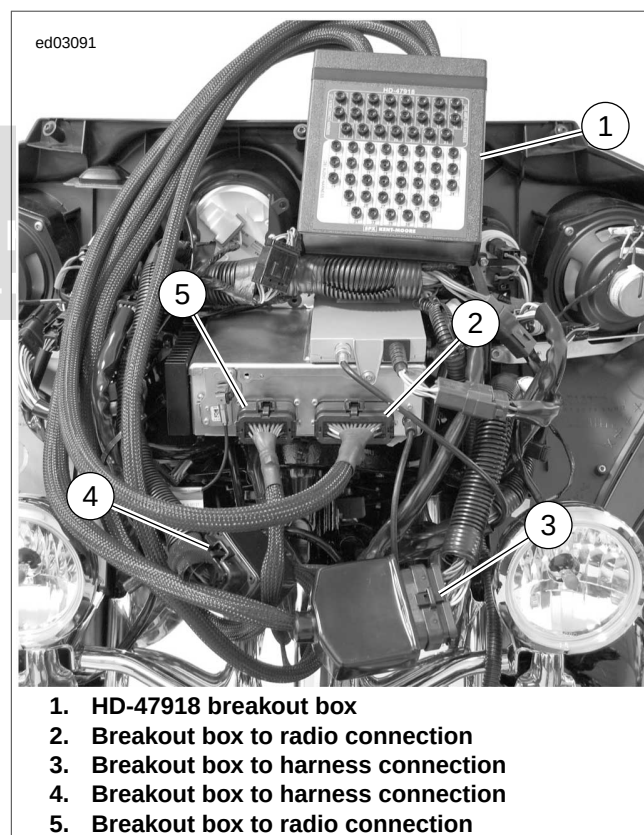

Figure 1-39. Typical HD-47918 Connection
3. See Figure 1-39. Connect BREAKOUT BOX (Part No. HD-47918) to connectors.